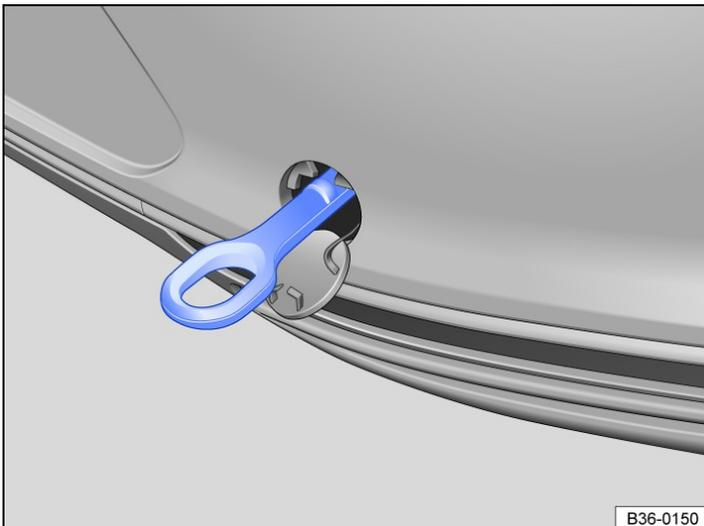

Fig. 2 On the right-hand side of the rear bumper: screwed-in towing eye.
- Turn the towing eye clockwise into the mounting and tighten as far as it will go → *Fig. 2*, → . Use a suitable object to screw the towing eye fully and securely into the mounting.